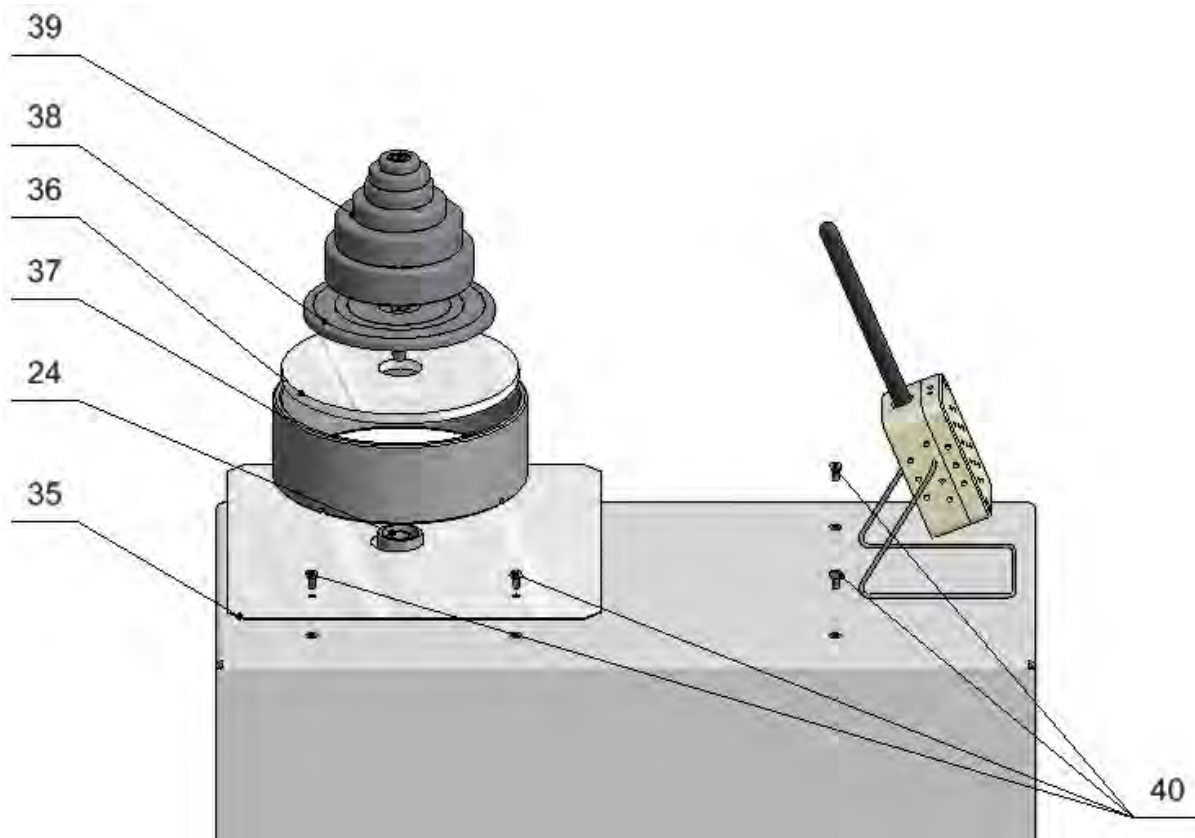

Fig. 12
28.2. Apply metal insert for masking (35) and screw down sixM4 screws (40). Apply a draft shield of a weighing pan (36), apply a pan shield (37) onto it, next apply a weighing pan fixed to a mandrel (38) onto a vertical rocker extension (24). If there is such a need apply a ballast set (39). (Fig. 12)